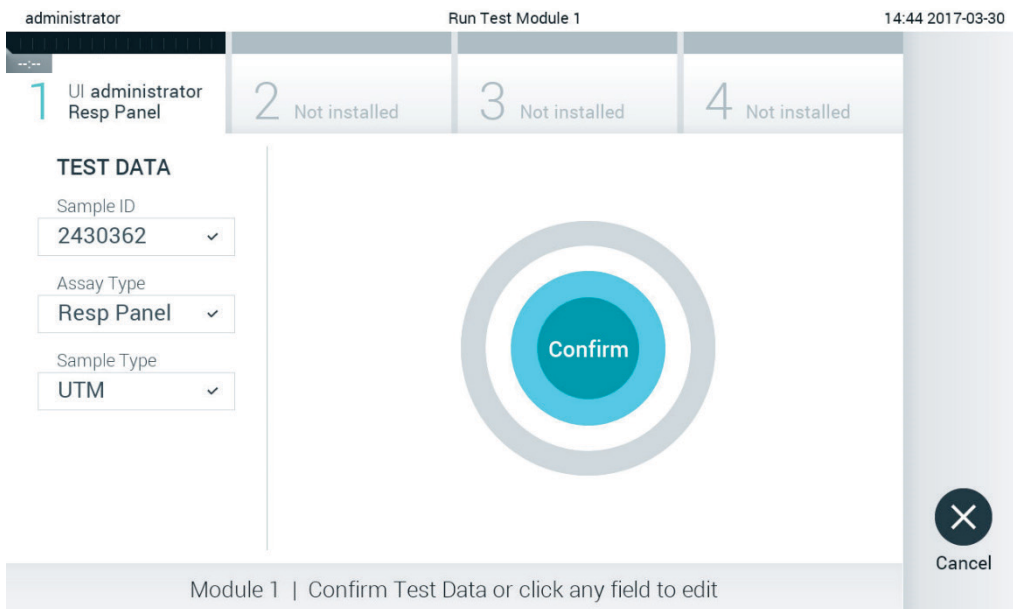

Figure 26. The Confirm screen.
5. The **Confirm** screen will appear. Review the data entered and make any necessary changes by pressing the relevant fields on the touchscreen and editing the information (Figure 26).